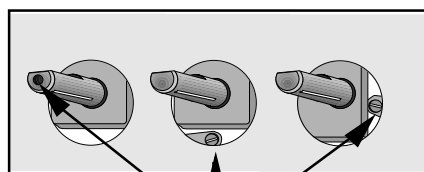

Fig. 2
- With a thin screwdriver, adjust the by-pass screw positioned in the centre of the gas tap control shaft (see Fig. 2). If changing from natural gas 20/13 mbar to liquid gas, completely tighten the adjustment screw in. If changing from liquid gas to natural gas 20 mbar, undo the by-pass screw about 1/4 of a turn. If changing from natural gas 20 mbar to natural gas 13 mbar undo the by-pass screw about 1/4 of a turn. If changing from liquid gas to natural